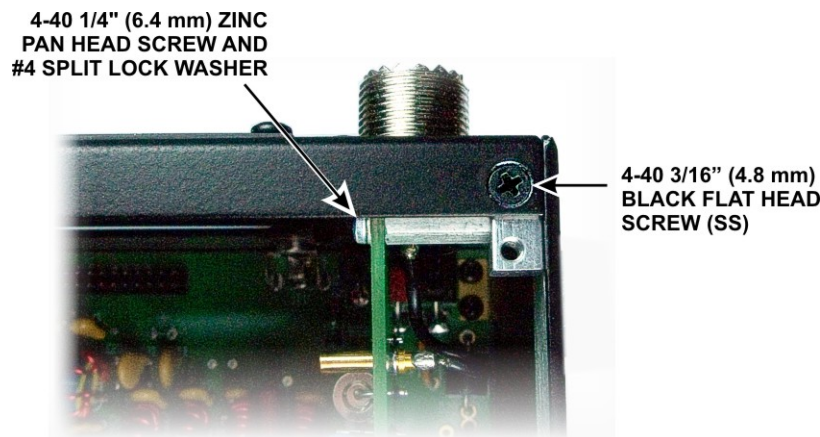

Figure 29. Installing KANT3/KAT3 Mounting Screw.
Mount the KANT3 or KAT3 board to the standoff on the side panel with a 4-40 1/4" (6.4mm) zinc pan head screw and a #4 split lock washer under the screw head as shown in Figure 29. *Do not place a washer between the board and the standoff.*
Install a 4-40 3/16" (4.8 mm) black flat head screw (SS) to secure the top of the rear panel to the 2D fastener as shown in Figure 29
Install another 4-40 3/16" (4.8 mm) black flat head screw (SS) at the opposite end of the rear panel to secure it to the top 2D fastener on the left side panel. When properly positioned, the rear panel should fit snugly against the inside edge of the side panel as shown in Figure 29. Verify the fit is correct at both ends. If necessary loosen the 2D fastener screws enough to adjust the position of the panels. .